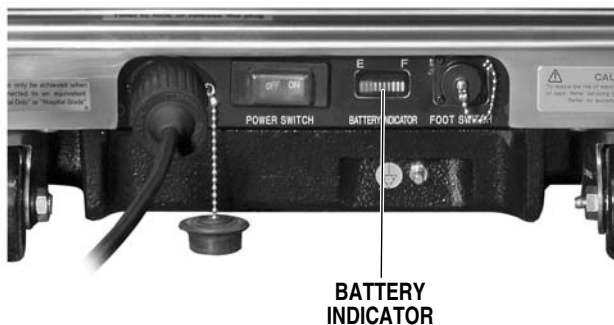

Figure 2-3. Battery Indicator
**a. Battery Indicator** The Battery Indicator consists of ten lighted bars, 3 red, 4 yellow and 3 green. See figure 2-3. Each bar represents a percentage of the battery charge condition. When all ten bars are illuminated, the batteries are fully charged. The following list shows the battery charge level as indicated by the lighted bars;